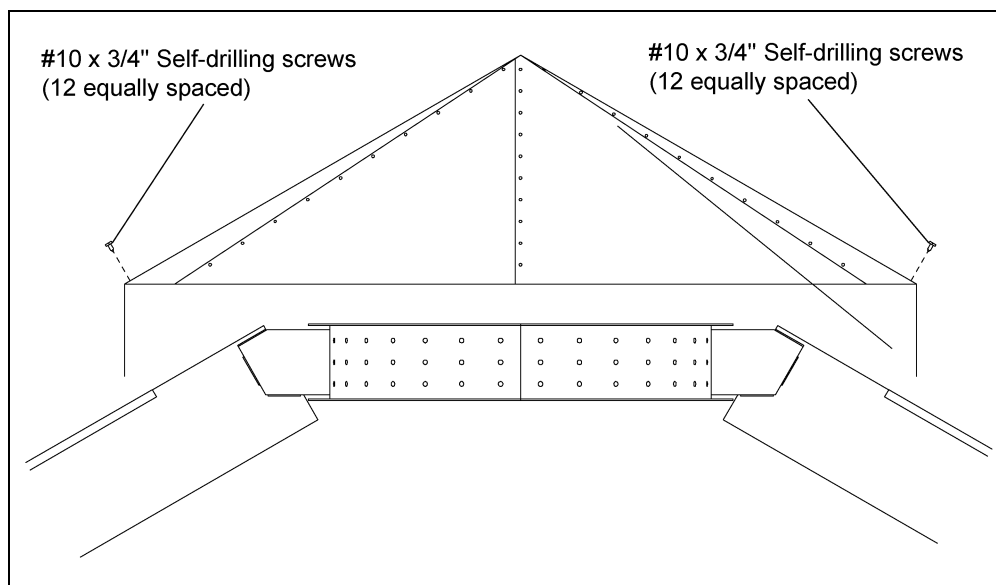

Figure 9B
Install cone over the center collar. Fasten cone assembly with twelve (12) #10 x 3/4" self-drilling screws (S-280). (See Figure 9B.)